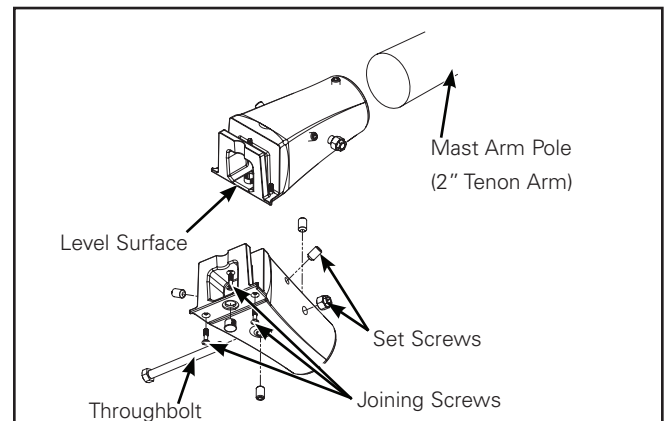

Figure 7.
- Secure the mast arm adapter to the mast arm with the (4) set screws. Level the mast arm adapter while tightening the set screws. Torque to 120 in-lbs (Figure 7).
- Drill a 7/16" hole through the mast arm and install the throughbolt and nut. Use care when drilling this hole so as not to damage any wires within the mast arm. Torque to 120 in-lbs (13.6 N-M) (Figure 7).
- Fold fixture wires and mast arm adapter wires out of the way and slide fixture on to the mast arm adapter. Tighten the three joining screws to 20 in-lbs (2.3 N-M), and install the plastic plug over the center screw. (Figure 7.)